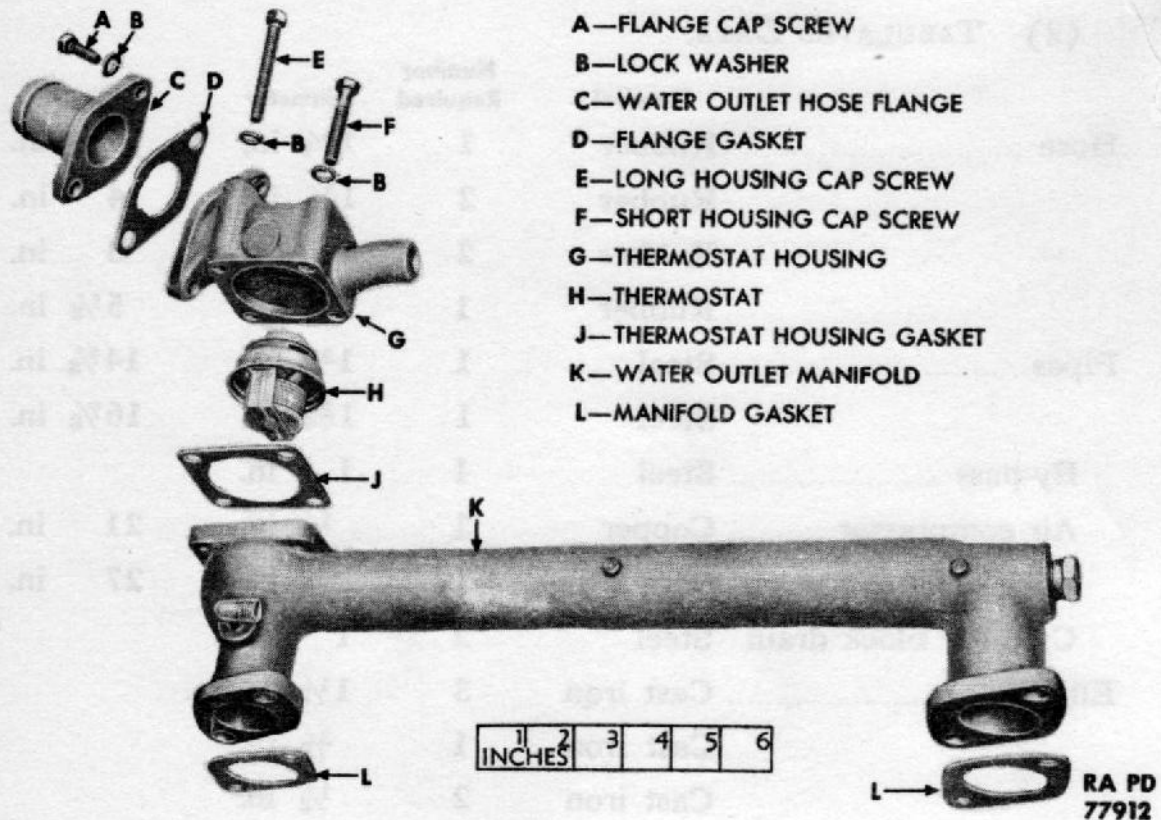

Figure 53 — Thermostat Housing Disassembled
(1) **DESCRIPTION** (fig. 53). The thermostat is mounted in the front of the water outlet manifold at top of the cylinder heads. It is an automatic type valve, and serves to control the circulation to keep the temperature of cooling fluid in the engine between 157° F and 183° F. This control shortens the engine warm-up period by keeping the cooling fluid in the engine until it is warm. The thermostat, when closed, allows the cooling fluid to circulate through the thermostat bottom opening and out the side vents into the by-pass tube. When the thermostat opens, the thermostat side vents are closed, and the cooling fluid circulates through the radiator instead of through the by-pass tube.
b. **Maintenance** (fig. 53). If thermostat does not function properly, place it in a container of water. Place a thermometer, or other satisfactory heat-gaging device, in water. Apply heat to water. Thermostat should start to open within 5° F of 157° F, and open fully within 5° F of 183° F. Replace thermostat if it does not open and close at these temperatures.
(1) **DISCONNECT BY-PASS TUBE FROM THERMOSTAT HOUSING** (fig. 53).
(2) **DISCONNECT WATER OUTLET HOSE FLANGE FROM THERMOSTAT HOUSING** (fig. 53) (par. 76 b). Remove the two flange cap screws and lock washers. Lift flange and gasket from housing.
(3) **DISCONNECT THERMOSTAT HOUSING FROM WATER OUTLET MANIFOLD** (fig. 53). Remove the four cap screws and lock washers which secure thermostat housing to manifold. Remove thermostat housing, gasket, and thermostat.
(1) **INSTALL THERMOSTAT AND HOUSING** (fig. 53). Place thermostat in position, bellows down, on water outlet manifold. Use new gasket, and position housing on water outlet manifold. Secure with the four lock washers and cap screws.
(2) **CONNECT WATER OUTLET HOSE FLANGE TO THERMOSTAT HOUSING** (fig. 53). Position flange gasket and flange on housing. Install the two lock washers and cap screws.
(3) **CONNECT BY-PASS TUBE TO THERMOSTAT HOUSING** (fig. 53).